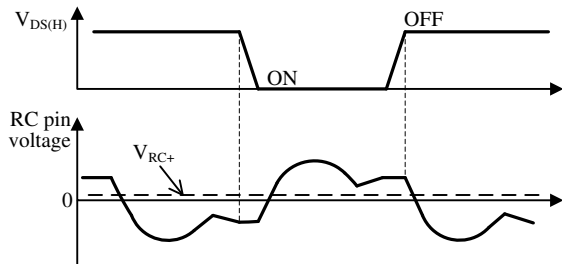
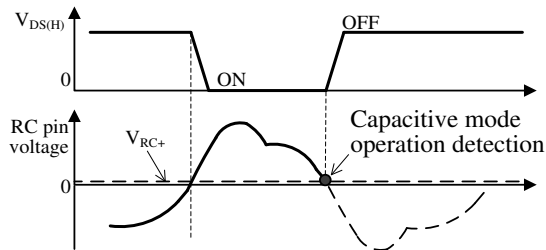

Figure 8-23. RC Pin Voltage in Inductance Area
Figure 8-24. RC Pin Voltage in Capacitance Area
Figure 8-23 shows the RC pin waveform in the inductance area, and Figure 8-24 shows the RC pin waveform in the capacitance area.
In the inductance area, the RC pin voltage doesn't cross $V_{RC} = +0.155$ V in the downward direction during the on period of Q_(H) as shown in Figure 8-23.
On the contrary, in the capacitance area, the RC pin voltage crosses $V_{RC} = +0.155$ V in the downward direction. At this point, the capacitive mode operation is detected. Thus, Q_(H) is turned off, and Q_(L) is turned on, as shown in Figure 8-24.